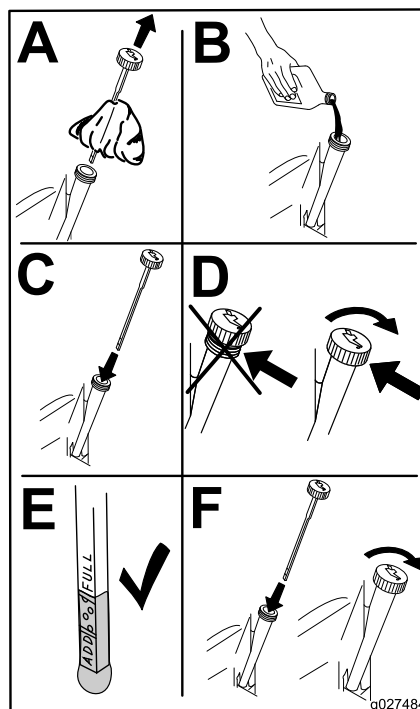

Figure 32
6. Slowly pour approximately 80% of the specified oil into the filler tube and slowly add the additional oil to bring it to the **Full** mark (Figure 32).